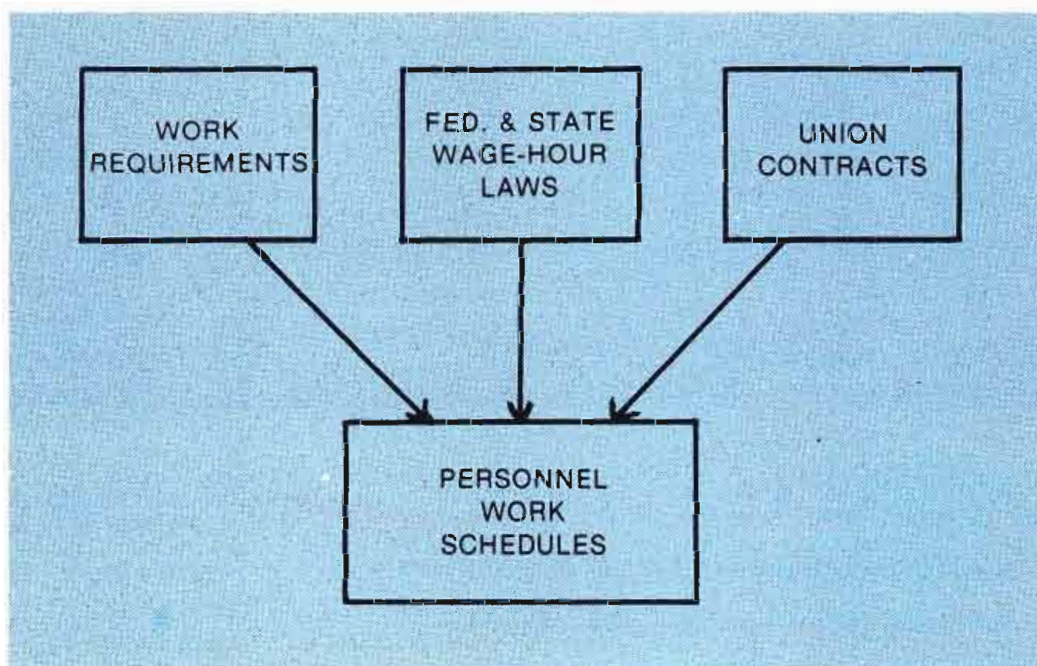

Fig. 1 Major factors which have a direct bearing on the scheduling process.
There is one other check you should make when you first align a new stereo head. This one isn't usually mentioned in the book, but can help you spot a bad head. It has to do with gap scatter (see Figure 1). Gap scatter itself is difficult to measure, and in fact most head manufacturers don't guarantee any specific limits, but the effects are easily detected.
Figure 1. Physical defects in heads can be checked using methods outlined in the text. (A) is an ideal head. (B) gap scatter. (C) Poor collinearity—gaps not parallel.